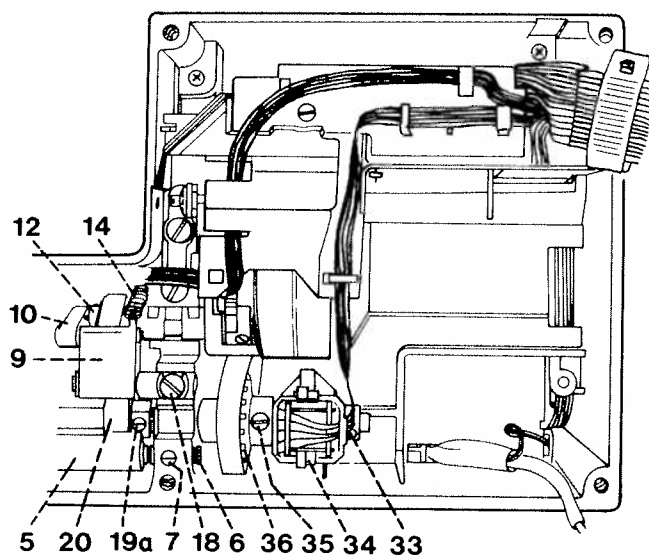

Fig. 27a
- Loosen fixing collar screw 33 of synchronizer 34 (Fig. 27a).
- Unscrew dog-point screw 19a of feeding eccentric 20 (Fig. 27a).
- Loosen the 3 screws 35 of lower belt sprocket 36 (Fig. 27a).